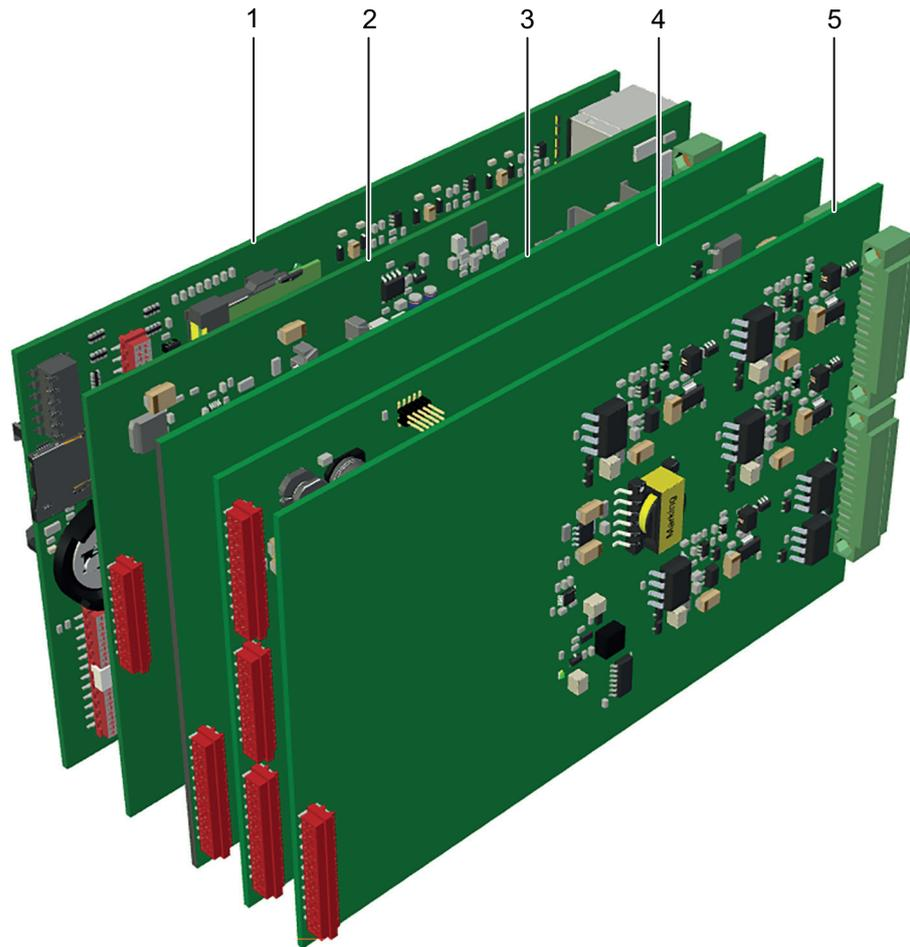

Fig. 13: Components of a stream (front view)
- **CoM basis** for communication and calculation (fig. 13, item 1)
- **IOC EX-IO** as an interface to the Ex zone with safely separated inputs and outputs (fig. 13, item 2)
- **IOC digital IO** as an interface for digital inputs and outputs outside the Ex zone (fig. 13, item 3)
- **IOC CPU** for processing all analogue and digital inputs and outputs (fig. 13, item 4)
- **IOC analogue out** as an interface for analogue outputs outside the Ex zone (fig. 13, item 5)